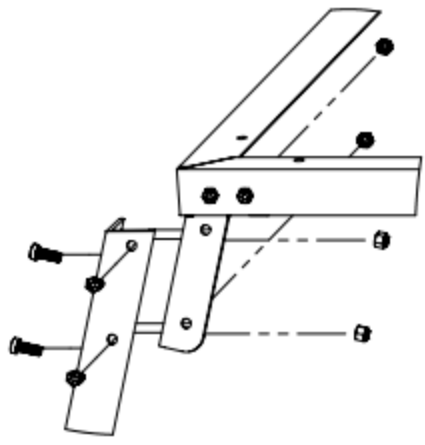

Fig 1
2. Attach 4 legs to the leg anchors on the base with 4 - 3/8 x 1" bolts & 4 - 3/8" nylon lock nuts for each leg. Do not tighten these at this time. (Fig 1)